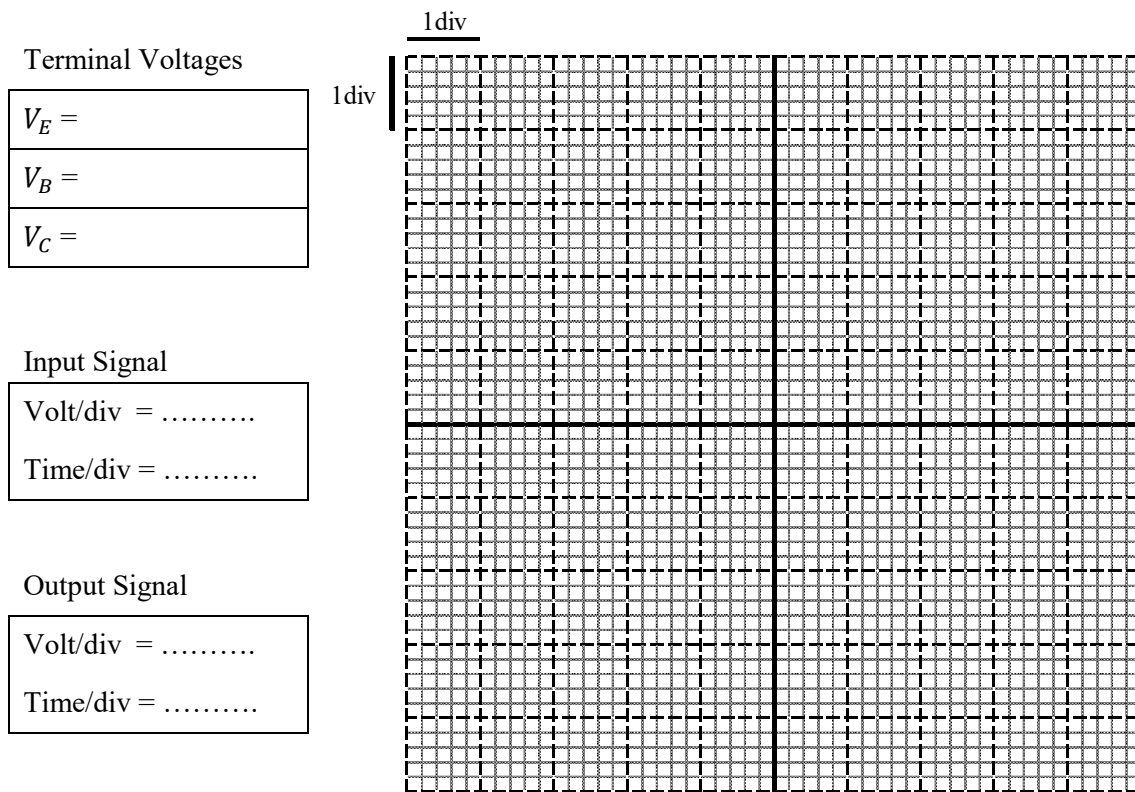

Figure 9: Input signal versus output signal oscillograph and terminal voltage measurements for Class-B.
12. Make sure the Function Generator is off, then measure the terminal voltages; V_E , V_B and V_C and fill the table inside the Figure 9 with measured values.
13. Sketch the input output signal into Figure 9.